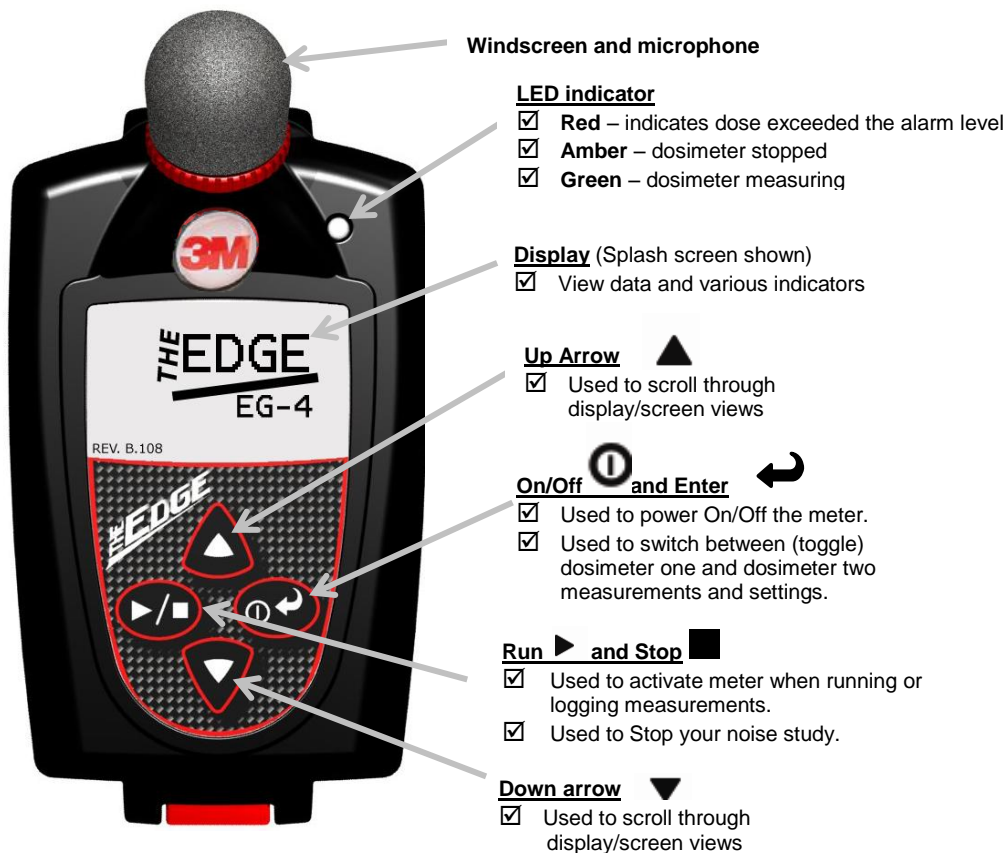

Figure 2-3: Edge Keypad
- ☑ The Edge **splash screen** (see Figure 2-3 for an example, page 10) will appear indicating the model (i.e. “eg4” or “eg3”) and firmware version. The screen will be in the **measurement view**.